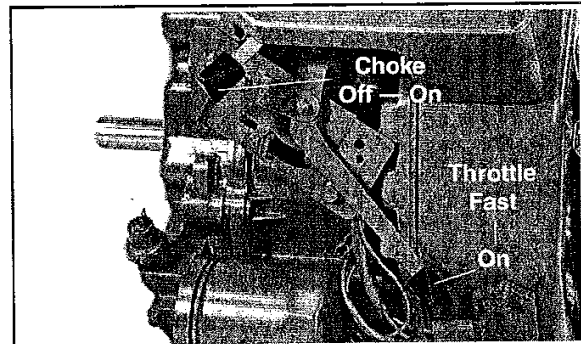

Figure 5. Throttle and Choke Positions for Starting Engine.
**For a Warm Engine (normal operating temperatures)** – Place the throttle/choke control **midway** between the **slow** and **fast** positions. Place the choke into the **on** position. See Figure 5.